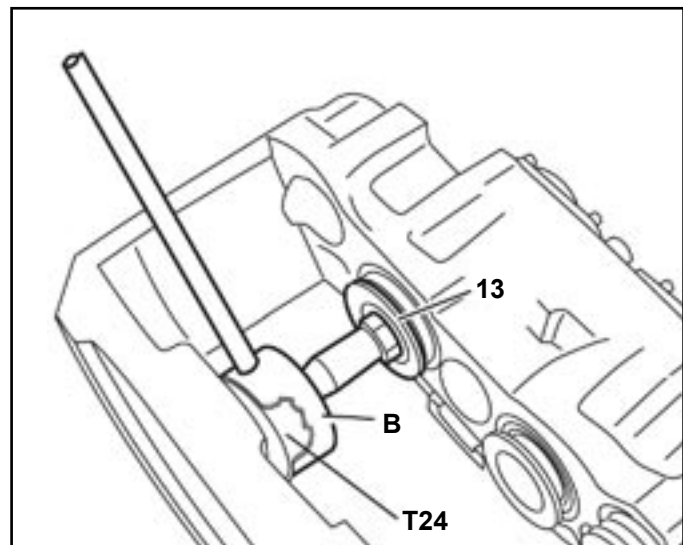

FIGURE 48 - OFF VEHICLE - USE OF EXTRA TOOL FOR SOME STYLES
Note: When installing the tappet for Bendix® ADB 22X™, ADB 225™, and SK7™ disc brakes, use the supplemental ring (T24), inserted into the tool (T2) - see Figure 48 - to assist the installation, since the caliper's back plate is too thin using only Tool (B) to achieve the correct position.